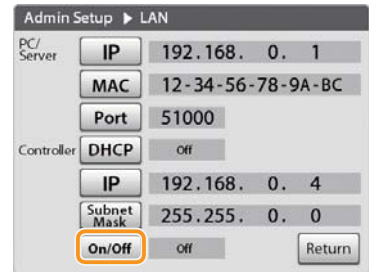

Figure 3-116
1. Tap [On/Off] of [Controller]. (Figure 3-116)